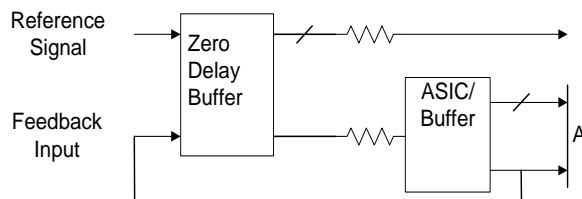

Figure 2. 6 Output Buffer in the Feedback Path
Referring to *Figure 2*, if the traces between the ASIC/buffer and the destination of the clock signal(s) (A) are equal in length to the trace between the buffer and the FBIN pin, the signals at the destination(s) device will be driven high at the same time the Reference clock provided to the ZDB goes high. Synchronizing the other outputs of the ZDB to the outputs form the ASIC/Buffer is more complex however, as any propagation delay in the ASIC/Buffer must be accounted for.